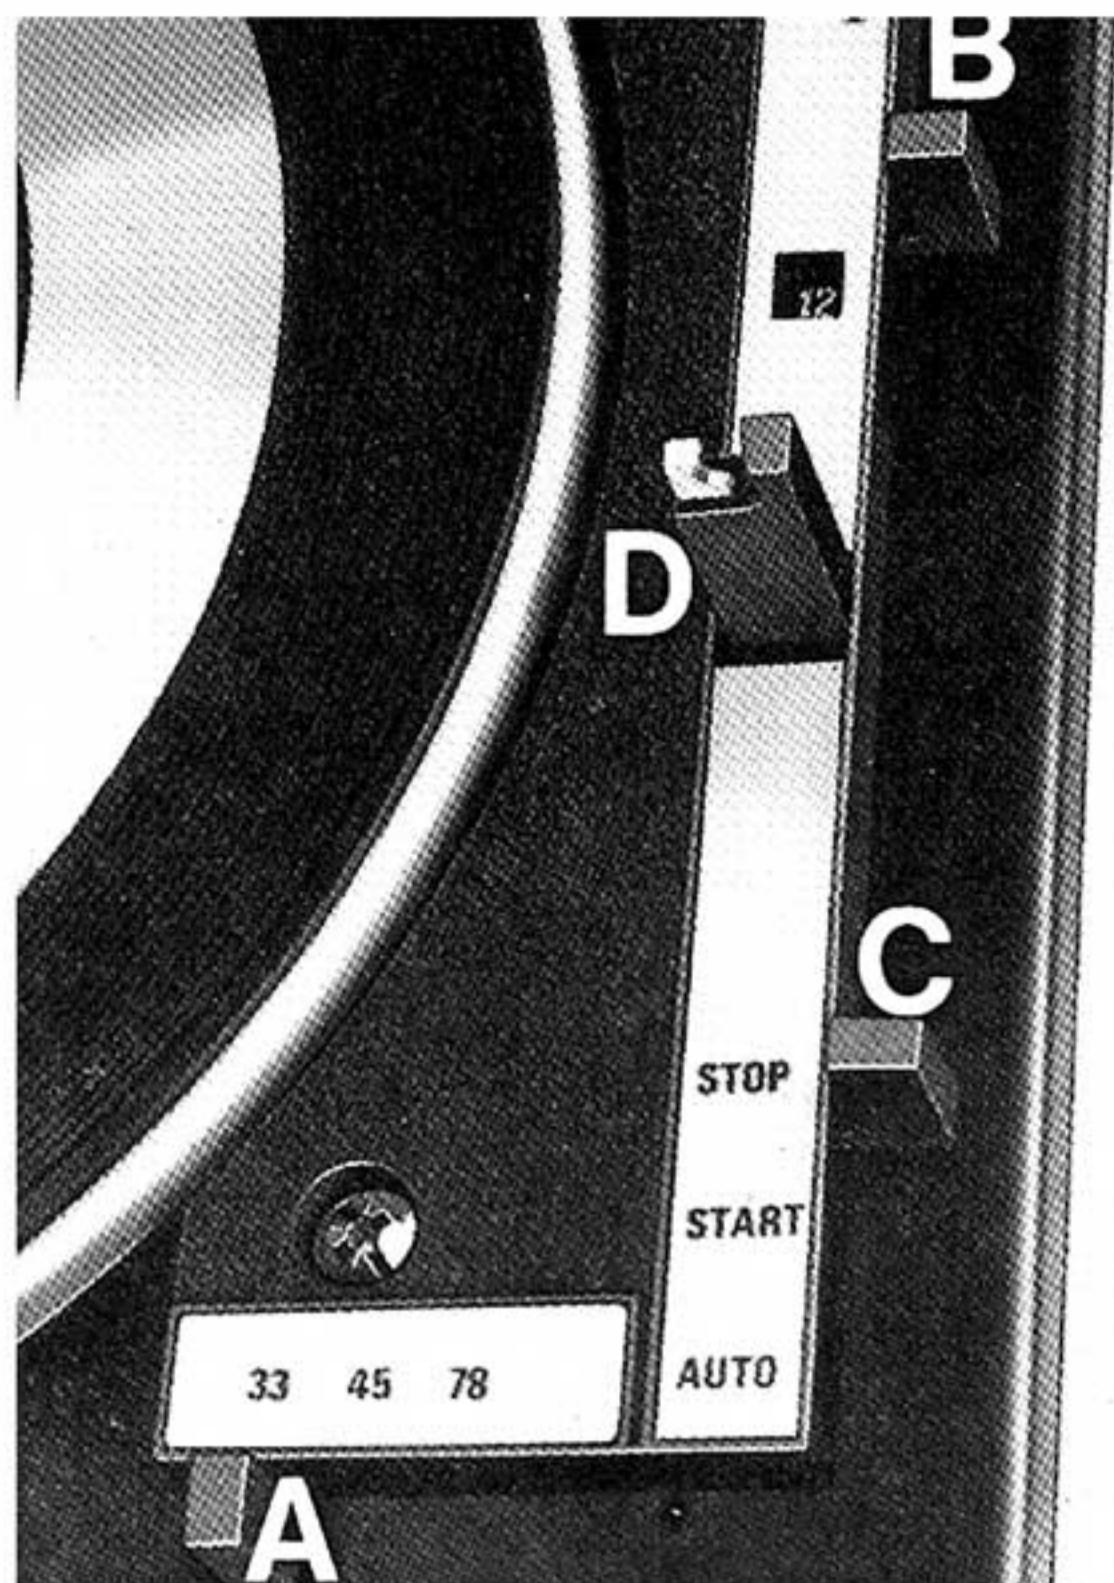
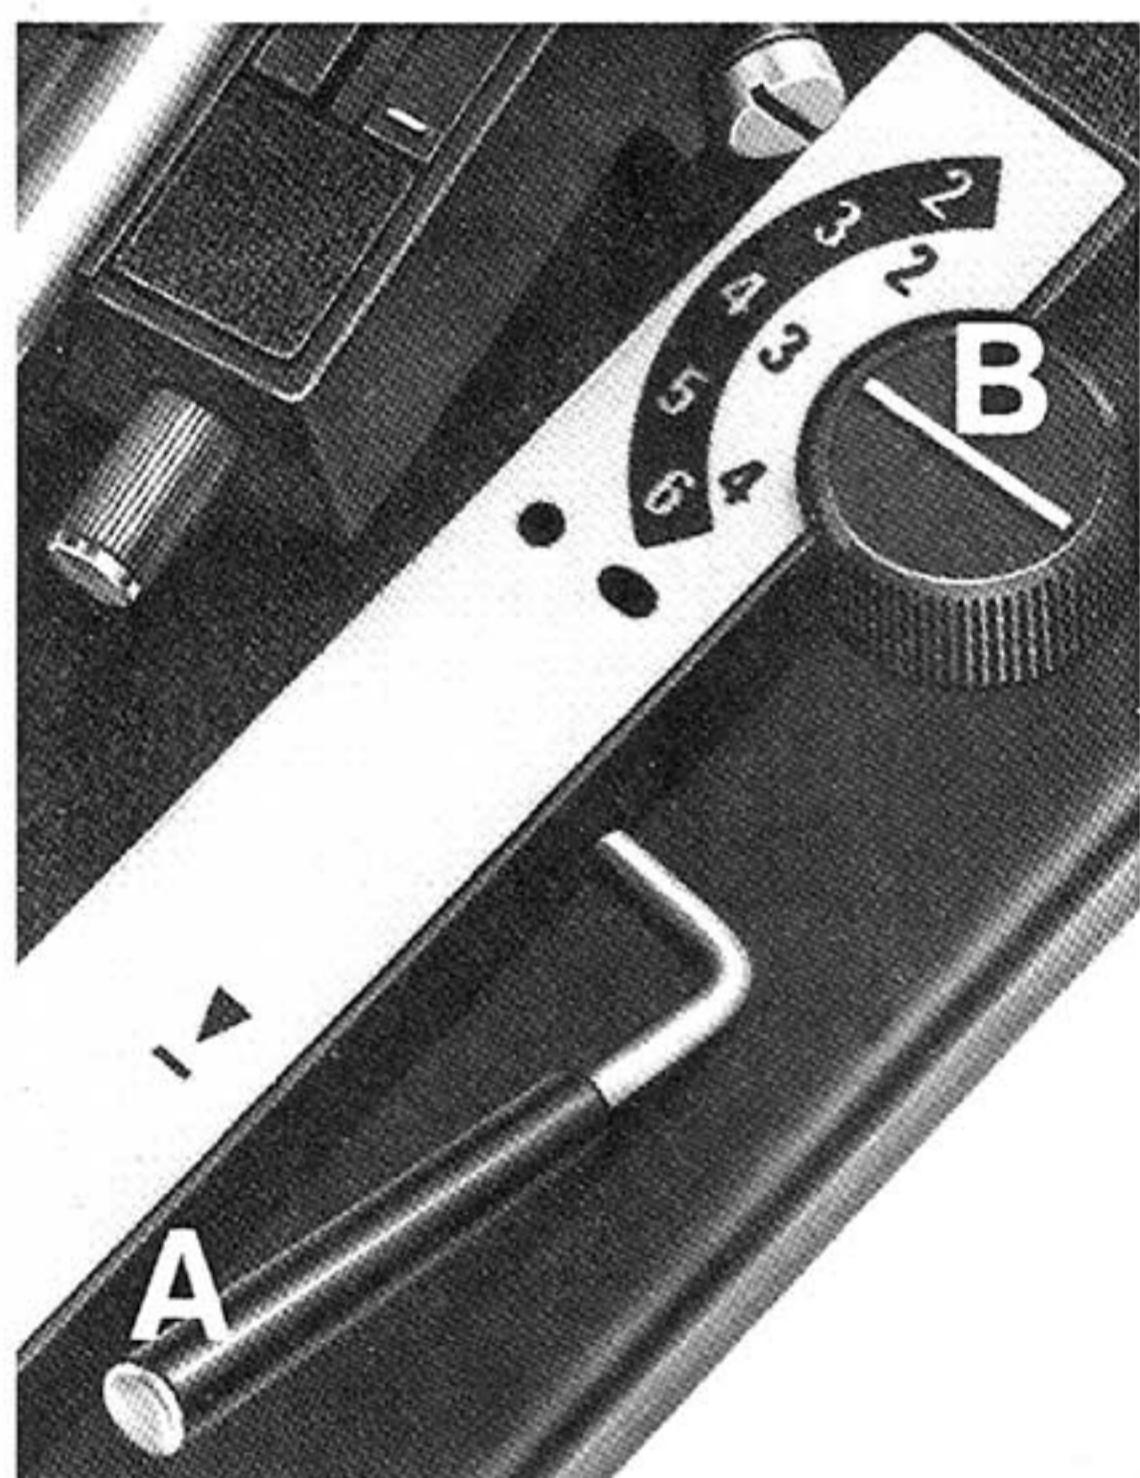

Fig. 1 CONTROL PANEL WITH AUTOMATIC PICK-UP LOCK
Fig. 2 CUEING LEVER AND BIAS COMPENSATOR
**3. To Start.** Move the starting lever (Fig. 1, C) to the AUTO position and hold there momentarily until the turntable revolves, then let it return gently to the START position.
**5. To Stop.** After playing the last record the unit will shut off automatically. If it becomes necessary to stop the unit during play, raise the cueing lever (Fig. 2, A) and move the pick-up arm above the pick-up rest (Fig. 1, D), lower the cueing lever and move the starting lever to the STOP position.
**NOTE:** To interrupt the record, raise the cueing lever (Fig. 2, A) to lift the pick-up arm. When the cueing lever is lowered, the pick-up will descend to the record and resume playing in the same groove.
- (a) Move the speed control (Fig. 1, A) against the required speed.